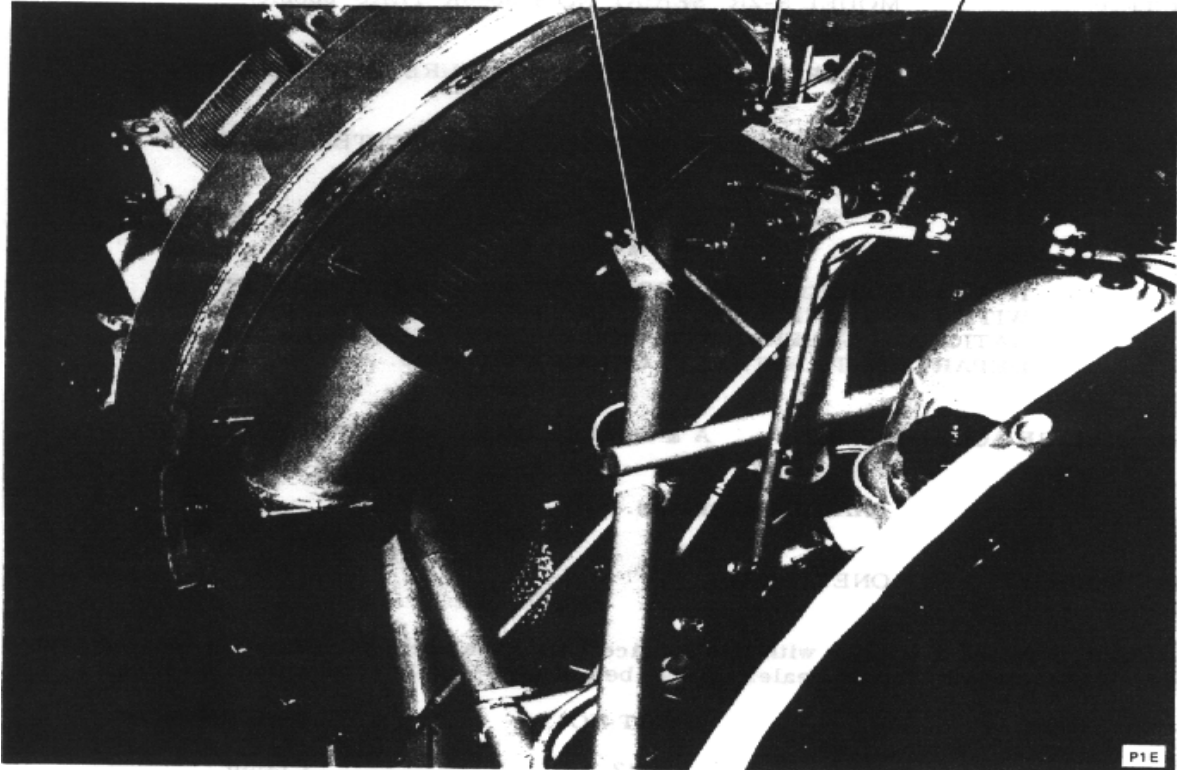

Figure 1.
2. Remove and discard existing lower clamp and bracket from carburetor air box control cable (see Figure 1.).
3. Remove and discard existing upper clamp from carburetor air box control cable and install AN742-4F clamp using existing hardware (see Figure 1.).